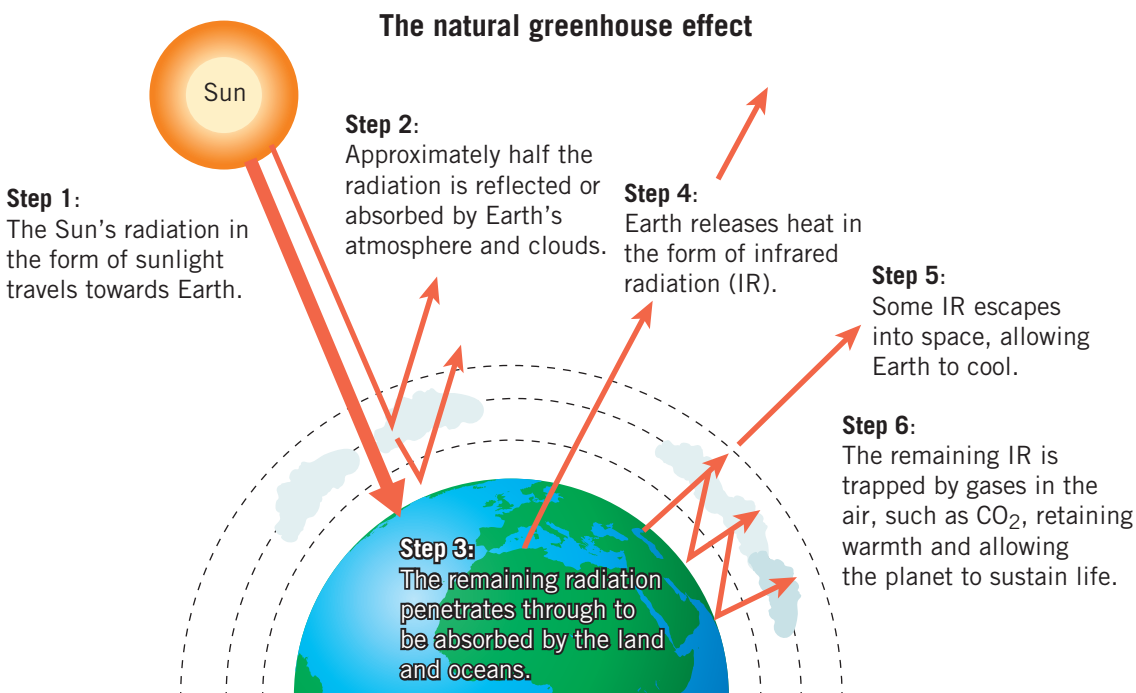

Figure 15B–2 A representation of the natural greenhouse effect
The **greenhouse effect** is a phenomenon that helps regulate Earth's environment. The most critical **greenhouse gases** are carbon dioxide (CO_2), methane (CH_4) and water (H_2O). Each of these gases helps to absorb and reflect **infrared radiation (IR)** from outer space and keep energy within the atmosphere, as shown in Figure 15B–2. This helps regulate the temperature of the planet. Each gas exists at a fixed concentration in the atmosphere and therefore provides a fixed amount of protection to the planet. These gases are needed to ensure the environment on Earth is stable.